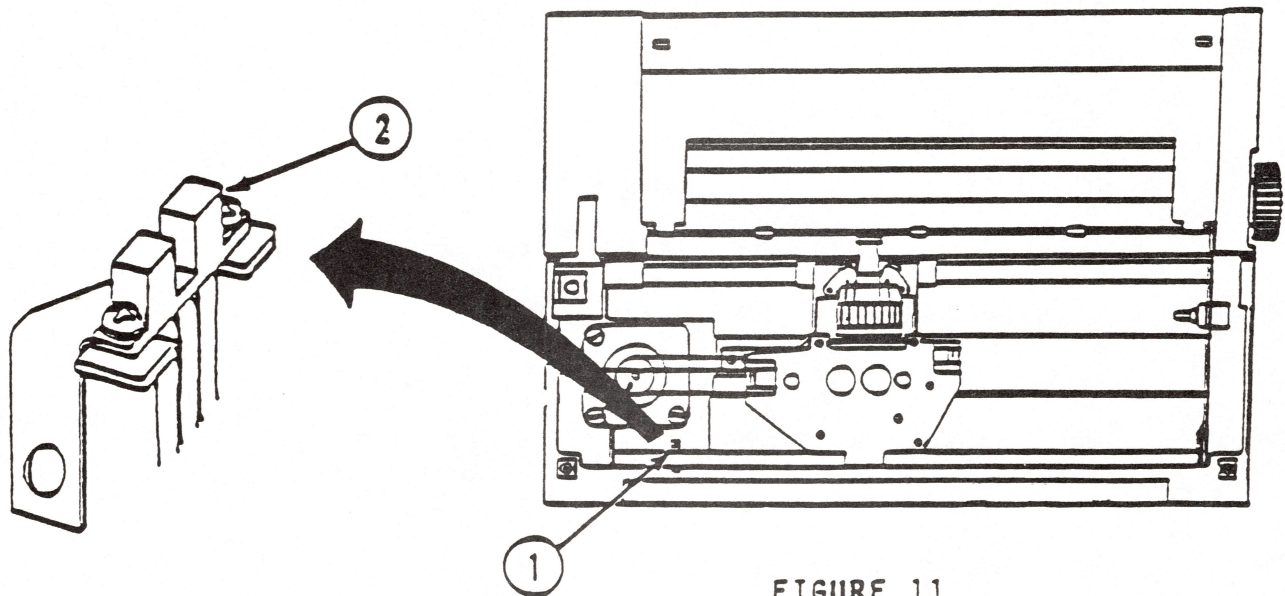

FIGURE 11
6. Find the detector plate. It is on the left front side of the printer, hidden just below the guide rail (see Figure 11, #1).
7. Using a brush, remove any paper dust (see Figure 11, #2).